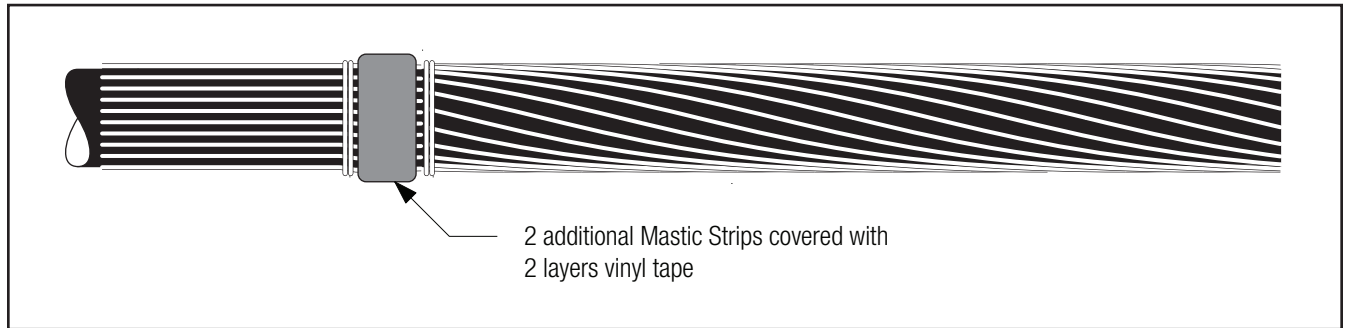

Figure 5
- 2.4.3 Wrap two additional strips of mastic over the first one and cover with two half lapped layers of vinyl tape (Figure 5).